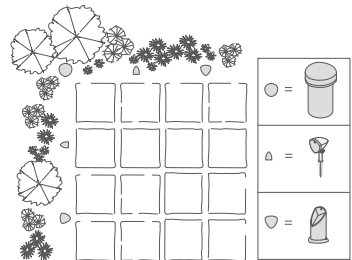

Figure 2
- Combined with Definitive Technology BL Series bollard speakers (see Figure 2)